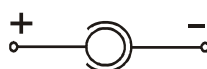

Fig. 2 Right polarization of plug of the feeder 12V/100mA
- Connect feeder 12V/100mA with the scale (using another kind of the feeder remember about right polarization of plug Fig.2).